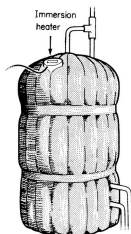

FIG. 49. *Lagging.*
3. *Electric immersion heaters* are popular in salons of moderate size. A lagged tank or cylinder of water has one, or sometimes two, insulated electric elements fitted into it. These heat the water and keep it at whatever temperature is desired by thermostatic control. (See Fig. 49.)